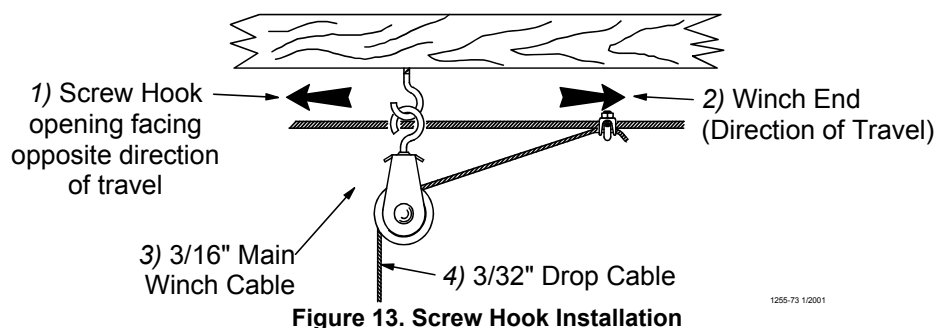

Figure 13. Screw Hook Installation
The openings of the screw hooks must be pointed away from the direction of travel when the Power Winch raises the feeder line. See **Figure 13**.
2. Thread the end of the 3/32" or 1/8" cable through the pulley toward the winch. Clamp this end to the 3/16" winch cable about 6" [150 mm] from the last pulley, using a 3/16" cable clamp. See applicable figure; **Figure 13 or 19**.